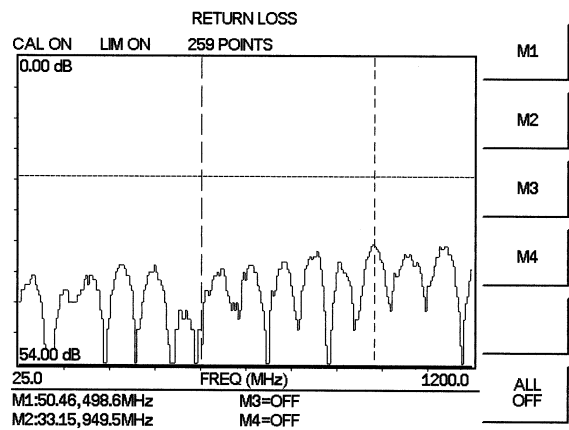

Figure 4-5. Cable Return Loss Measurement Results
**Step 17.** Observe the displayed measurement. Figures 4-5 and 4-6 show typical SWR and Return Loss measurements with markers and limit line set.
- Step 25. Repeat steps 22 and 23 for marker M2. Set M2 to 950 MHz (Figures 4-5 and 4-6 depict the Return Loss and SWR measurements).